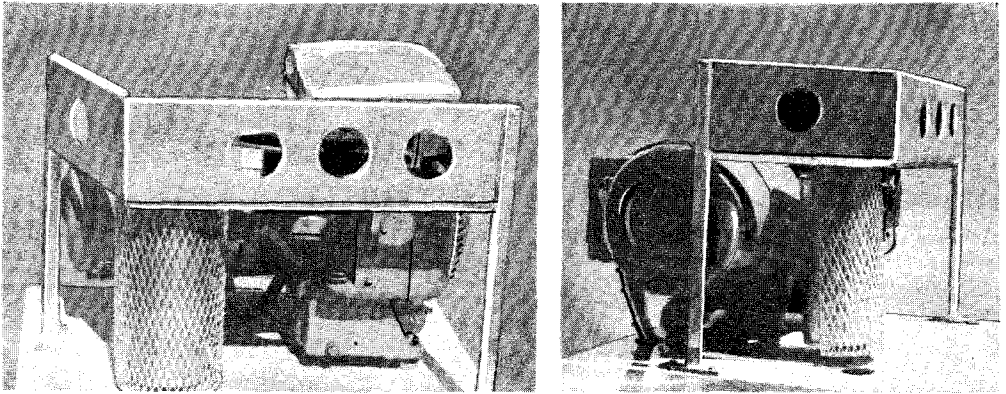

Fig. 3—ONAN Generator
2.06 Electric power to operate the lift, power tools, and lights is provided by an ac generator driven by an auxiliary gasoline engine. (See Fig. 3.) The generator provides 120-volt single-phase, 240-volt 3-phase, 60-hertz power. The ignition switch, low